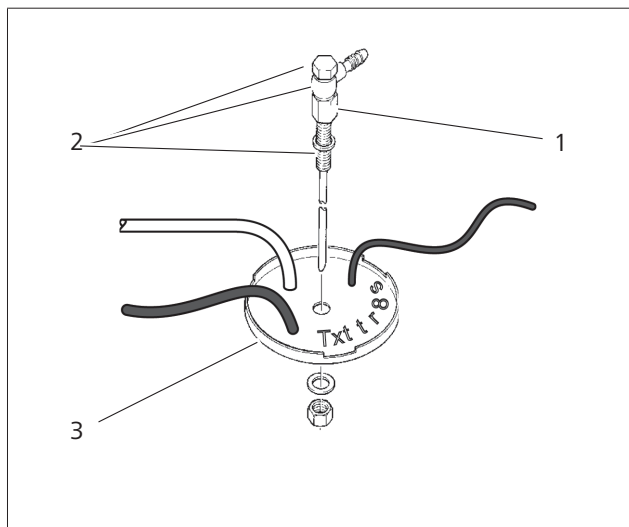

Fig. 32 Webasto fuel extractor
- The fuel can be taken from the vehicle's own fuel tank or from a separate tank with a fuel extractor. See Fig. 32.